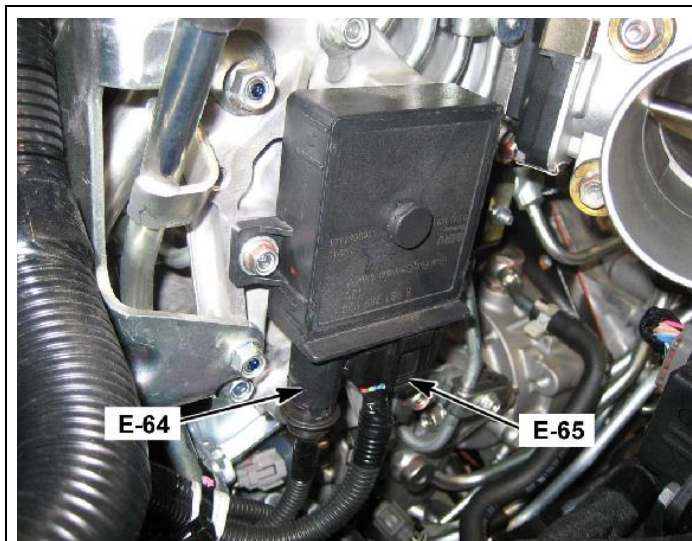

Figure 3
3. Inspect the GPCM harness connectors at the module (E-64 and E-65) for moisture intrusion and damage to the connector or terminals. (See Figure 3.)